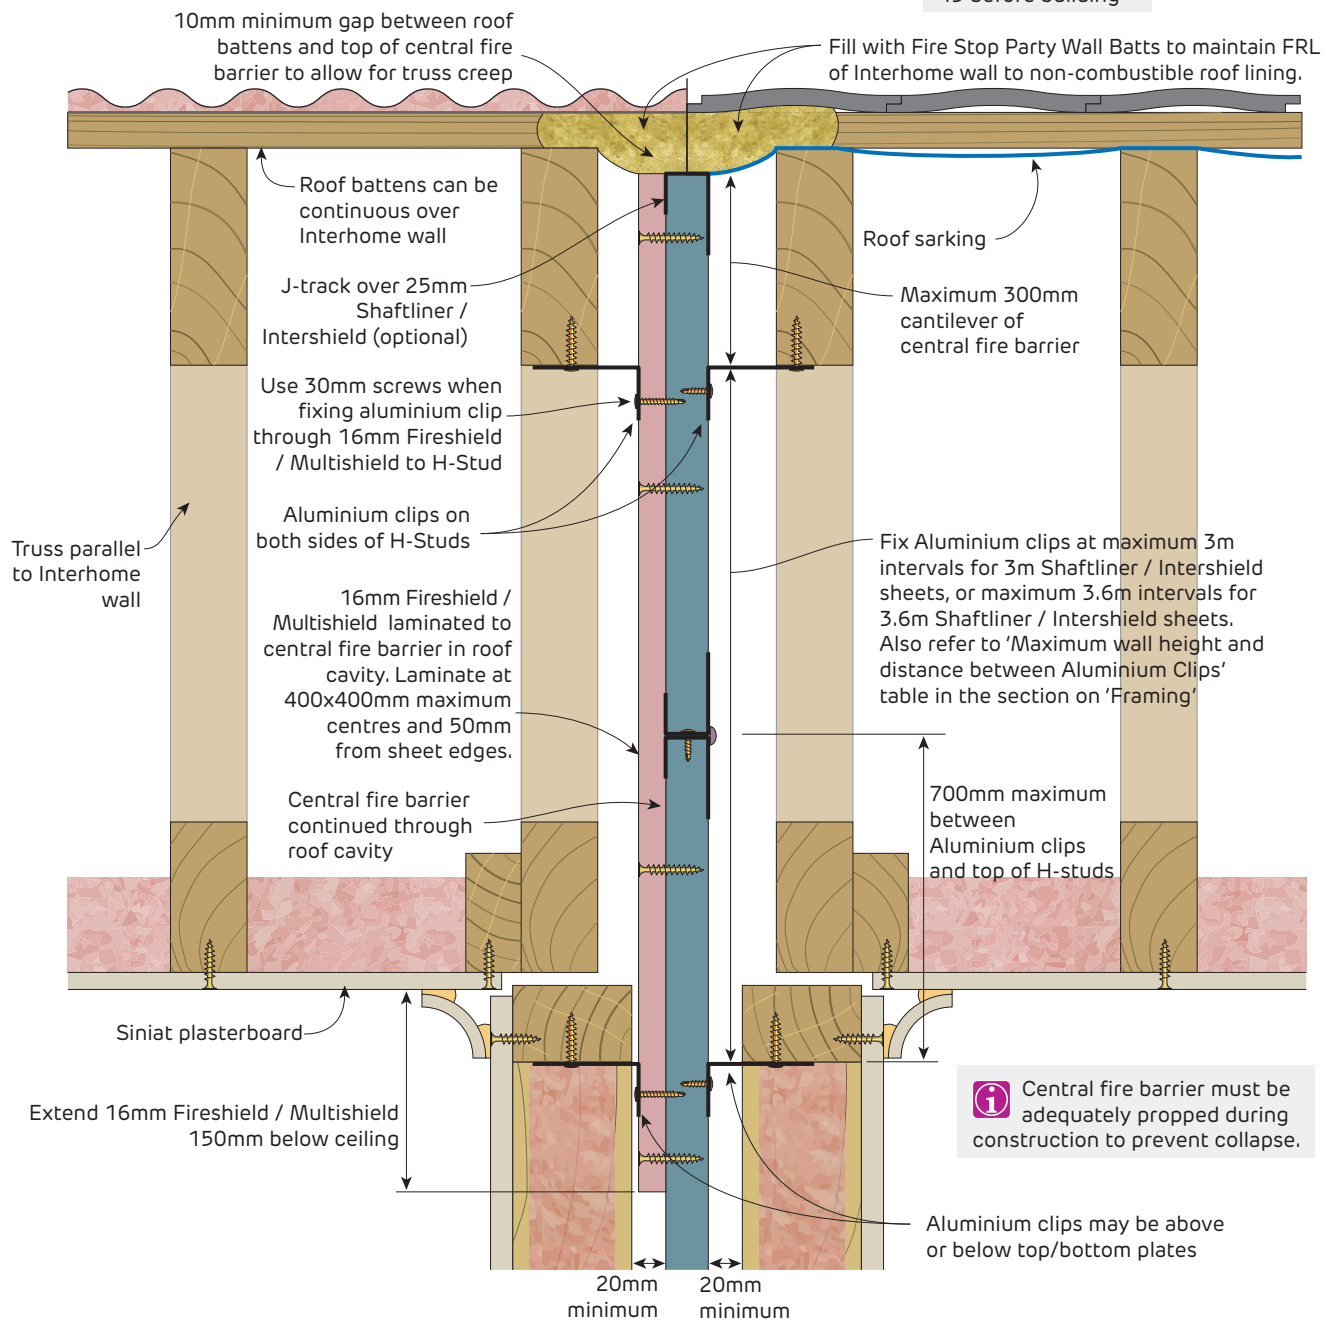

FIGURE 35 Interhome Wall to Roof Lining
- > Roof space [Figures 35 - 36, 38 - 41, 43, 47 - 48, 53]